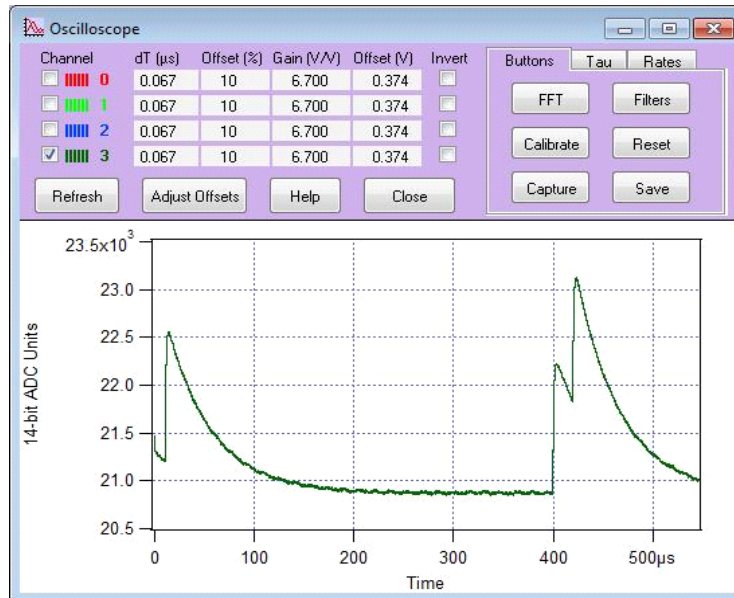

Figure 2-4: OSCILLOSCOPE panel
2. At the bottom of the PARAMETER SETUP panel, click on the [**Oscilloscope**] button. This opens a graph that shows the untriggered signal input. (Figure 2-4) In the OSCILLOSCOPE panel, click [**Refresh**] to update the display. The pulses should fall in the range 0-16Ki2 for modules with 14 bit ADCs, 0-64Ki for modules with 16 bit ADCs. If no pulses are visible or if they are cut off at the upper or lower range of the display, click [**Adjust Offsets**] to automatically set the DC offset. If the pulse amplitude is too large to fall in the display range, decrease the **Gain**. If the pulses have falling leading edges, toggle the **Invert** checkbox. For the 500 MHz